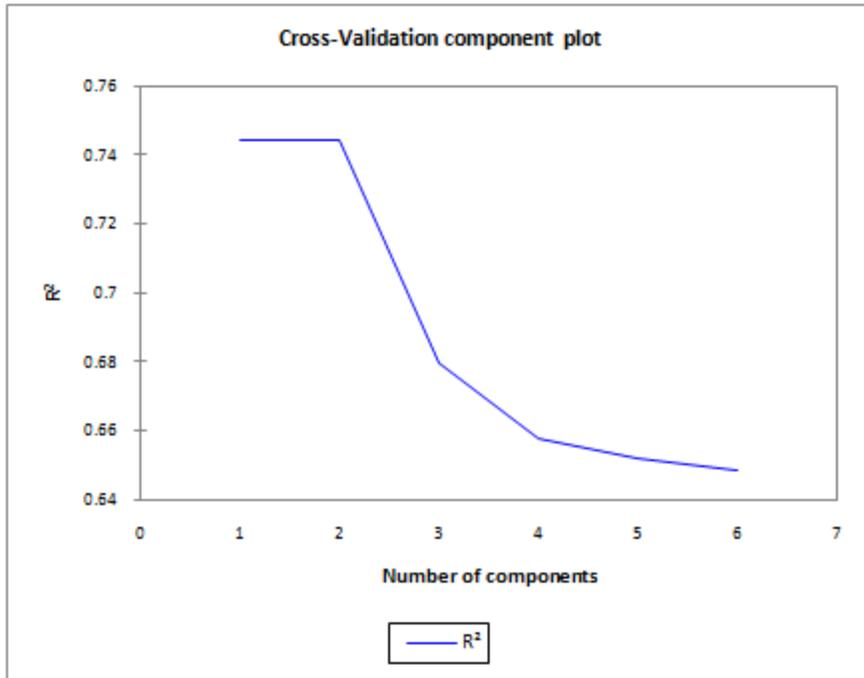

Fig. 1. Cross-Validation Component (CV- R^2) Plot showing deterioration for $K > 2$
CCR utilizes the cross-validated R^2 as its criterion for determining the proper amount of regularization (K) to use in a regression model. Fig.1 shows that substantial decay in $CV-R^2$ occurs for $K>2$. Thus, a substantial amount of regularization is required ($K<3$) to obtain a reliable result. Since OLS regression applies no regularization at all ($K=P=6$), this plot indicates that the OLS model definitely is overfit, and the CCR model (with $K=2$) should predict PRICE better than OLS regression when applied out-of-sample to new data. The results based on all 6 predictors: $CV-R^2 = .75$ for CCR compared to $.63$ for OLS regression.
Note that activating the 'Automatic' option also requests the Cross-Validation Component Plot to be generated (this is checked in the **Charts** tab) shown earlier in Fig. 1.